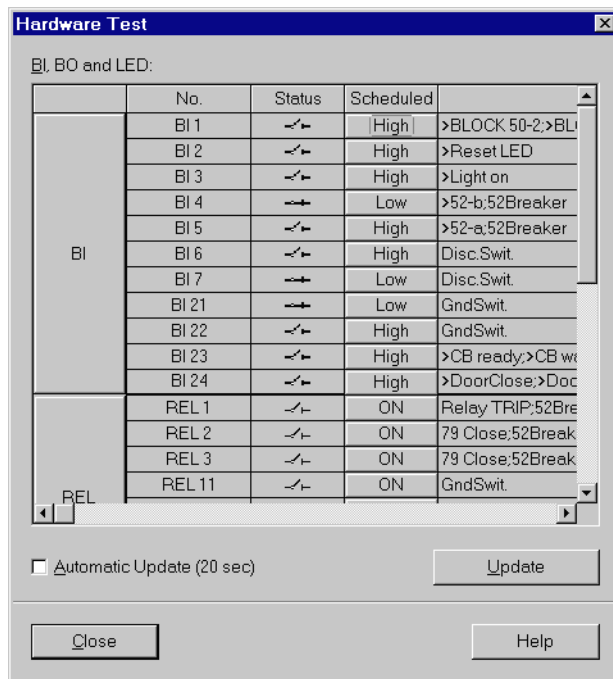

Figure 3-22 Dialogue box for hardware test — example
- Double-click in the list view on **Hardware Test**. The dialogue box of the same name opens (see Figure 3-22).